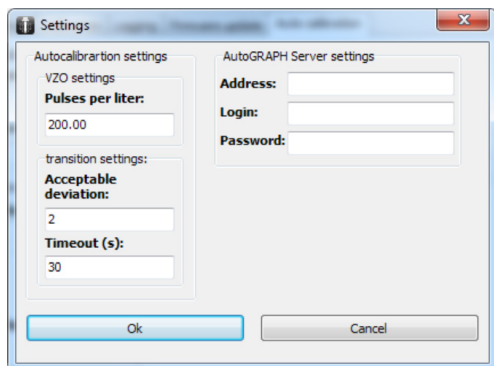

Fig.2. Calibration settings.
- In the Settings menu (Fig.2), set up the flowmeter parameters – a number of pulses accounted for 1 litre of fuel. This characteristic is given in technical documentation on the flowmeter;